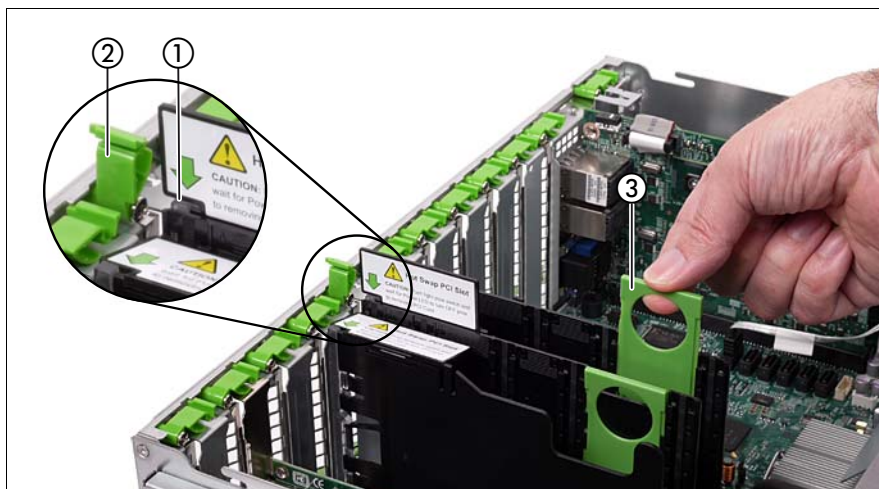

Figure 23: Deactivating, unlocking and removing the board
- ▶ Close the expansion card lock (see position #2 in figure 23 on page 103) by folding it down. Make sure that the expansion card lock engages.
- ▶ Activate the expansion card using either the relevant PCI hot-plug software or by pressing the light-pipe switch (see position #1 in figure 23 on page 103).